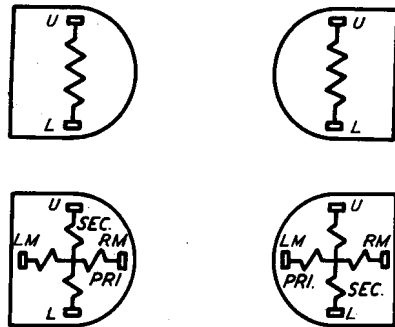

FIG. 25 - WINDING TERMINAL ARRANGEMENT AS VIEWED FROM THE REAR (TERMINAL SIDE) - 221, 222, 223 AND 224 TYPE AND SIMILAR A. E. CO. RELAYS
2.20 The spring numbering for these relays is the same as that covered in Section 005-120-103. The winding terminal numbering used prior to 1931 is as illustrated in Fig. 25. The abbreviation WDG